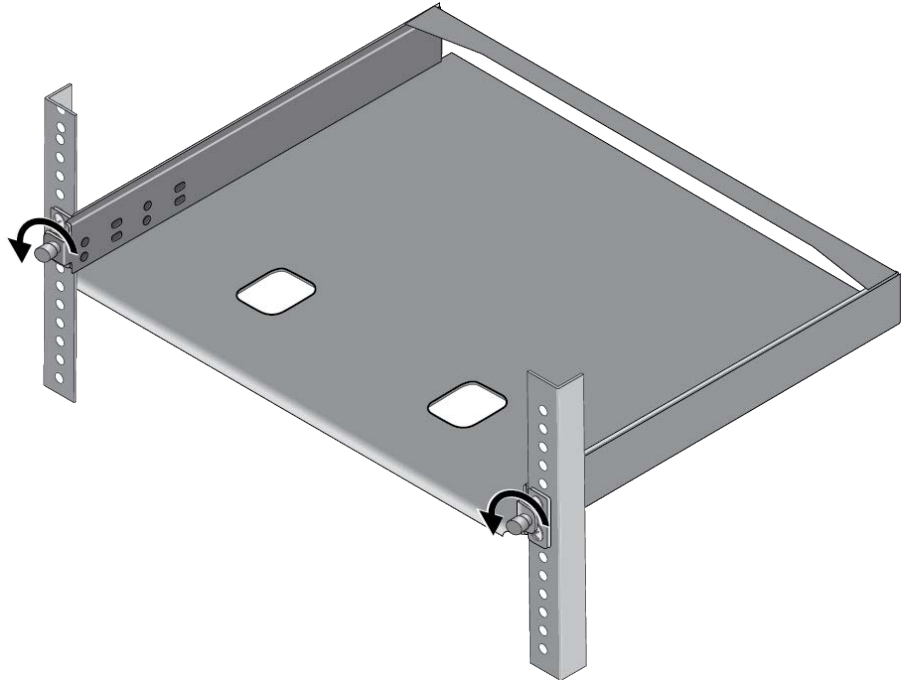

Figure 38. Loosening the Two Thumbscrews on the RKMT-J15 Equipment Rack Tray
5. Loosen the two thumbscrews on the front of the tray. Refer to Figure 38 on page 71.